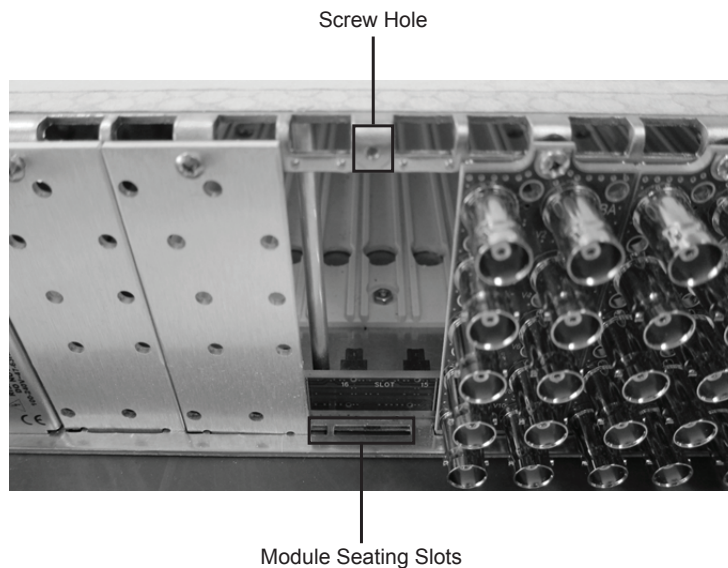

Figure 2.1 Rear Module Installation in an openGear Frame (VEA-8707A not shown)
3. Install the bottom of the Rear Module in the **Module Seating Slot** at the base of the frame’s back plane. (**Figure 2.1**)